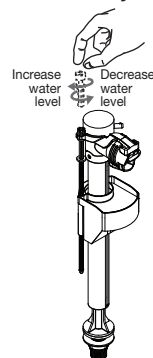

Fig. 5
- 8- Adjust water level. Turn on water mains. Open the cistern stop valve and check the operation of the mechanism and valve. Adjust water level to the water level mark inside the cistern by simply turning the float arm adjustment screw in a clockwise or anti clockwise direction as detailed in Fig. 5.